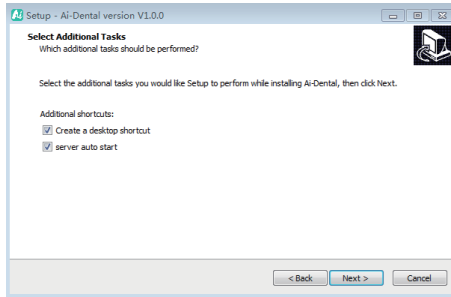

Figure 6
e) Set whether to create a desktop shortcut and server auto start, click the “Next” button after completion, as shown in Figure 6: